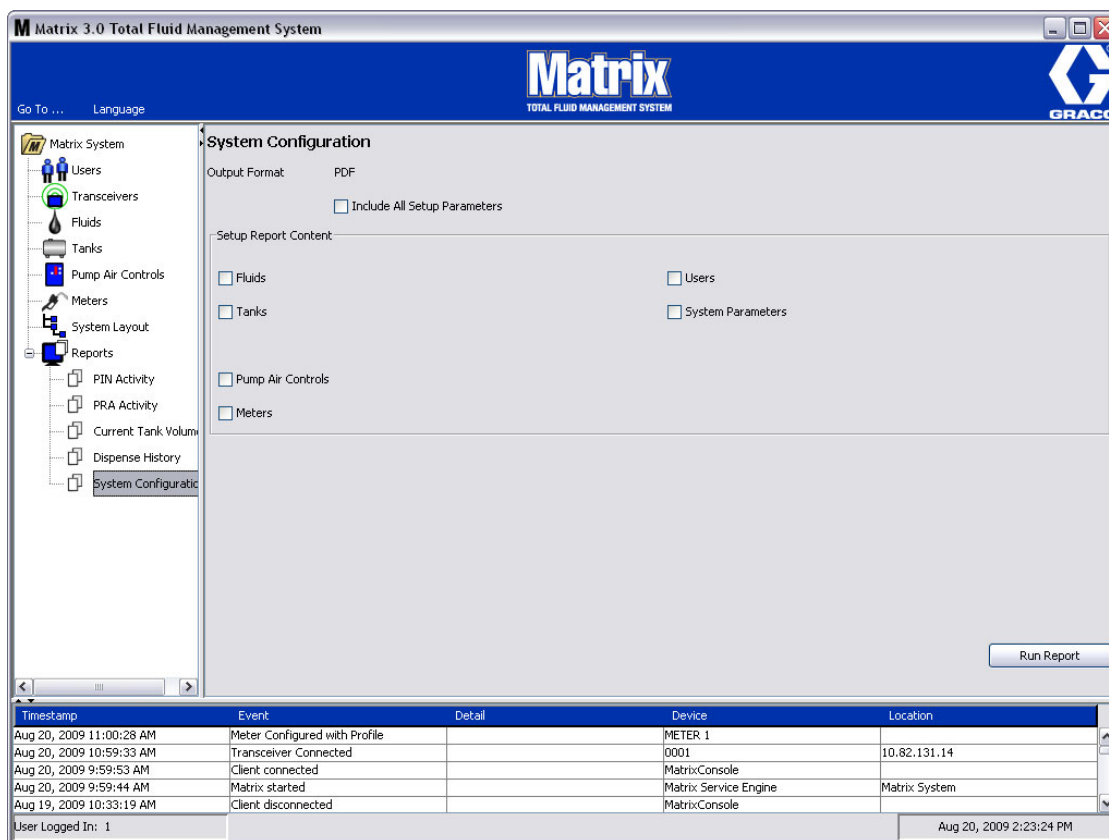

FIG. 109
- **System Configuration (FIG. 109)**